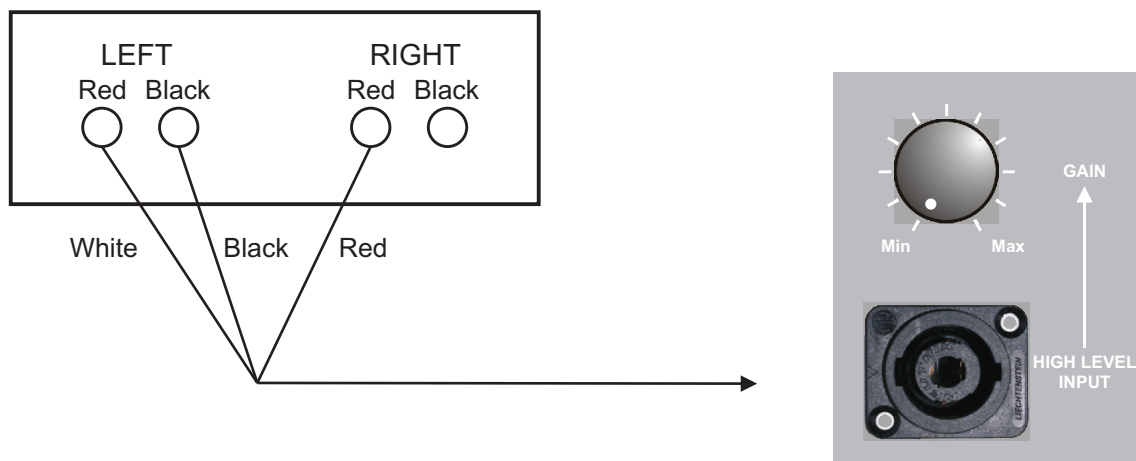
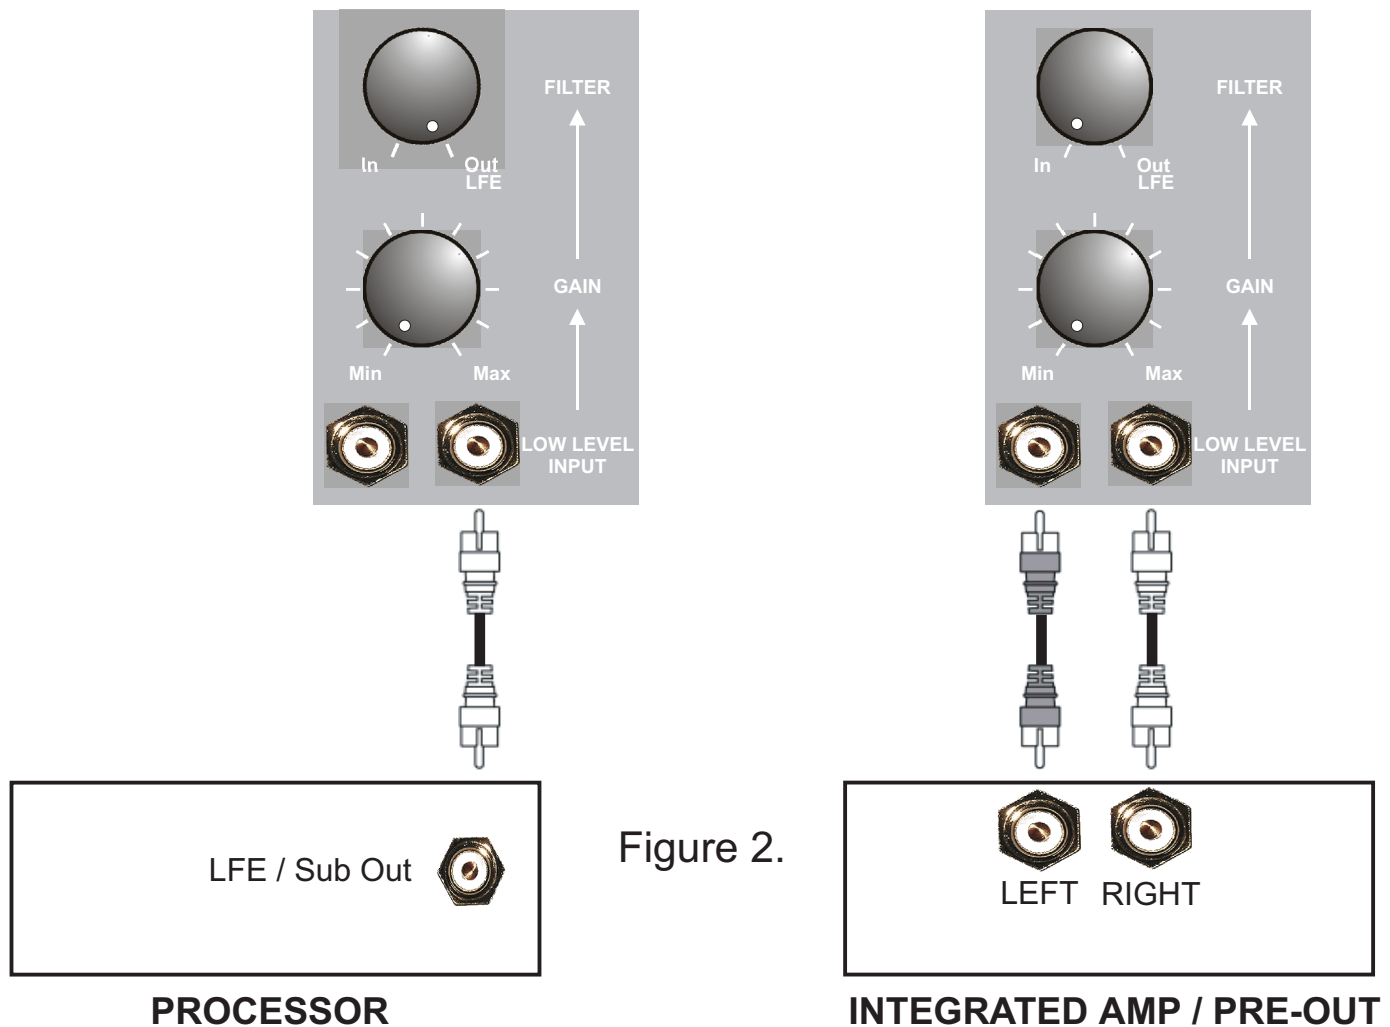

Figure 1.
Figure 2.
Figure 1. Shows a diagram on how to connect the high level input. Using the optional Neutrik lead, connect the P12-300SB-PR to the output of your amplifier via your existing speaker plug or to a spare set of speaker terminals if available. In effect you are Bi-Wiring your P12-300SB-PR to your power amp. Please note that the Neutrik cable has only three leads and is arranged this way to preserve the star earthing of your amplifier (assuming it has a star earth arrangement).
Figure 2. Shows a diagram on how to connect the low level input. Using the supplied RCA to RCA interconnect, plug one end into the P12-300SB-PR low level input and the other end into the dedicated sub output on your amplifier or processor. If a sub out is not available then you can use a spare set of pre-amp outputs.
- Connect your P12-300SB-PR as shown in Figure 1 or Figure 2. Then attach your subwoofer to the power supply using the power cable supplied, at this point have the power switch in the off position.